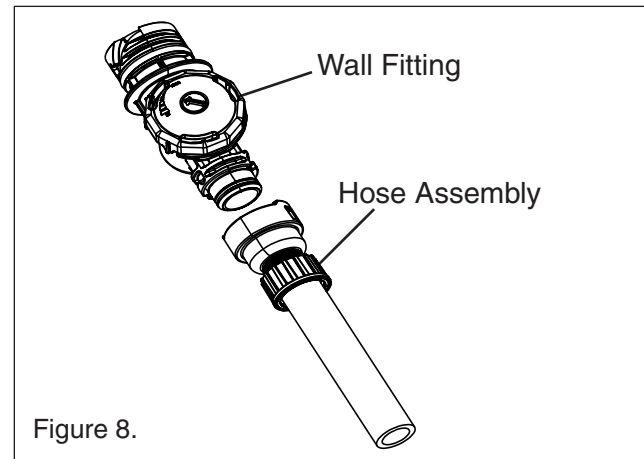

Figure 8.
1. Attach the hose assembly to the wall fitting. **See figure 8.** Then attach the wall fitting (with hose) to the wall adaptor. **See figure 8.** Take the opposite end of the hose assembly and walk to the farthest point of the pool from the wall adaptor. **To prevent over stretching the hose, rest the hose on top of the pool water.** Measure the excess hose length (hose that extends beyond pool edge). This determines the amount of hose to be cut from sections 2 and 3.